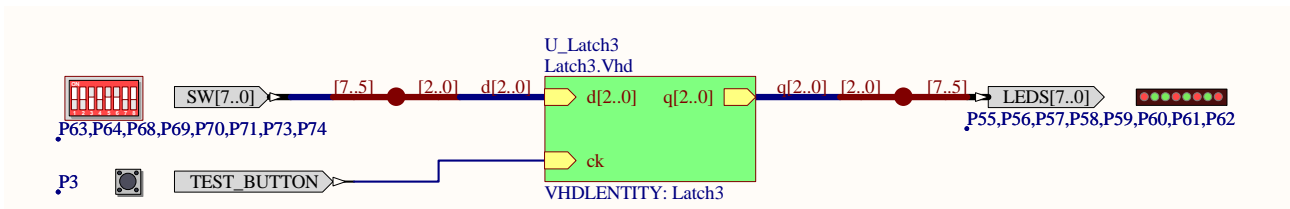

Figure 5: Schematic of the three input latch showing the DIP switch and TEST/RESET button inputs and the LED outputs
*The schematic used is similar to that for the decoder only that there is now an extra input for the TEST/RESET button. The actual schematic should be similar to that shown in Figure 5. Note that the DIP switch inputs was flipped around and the last three were used to make it easier to operate.*